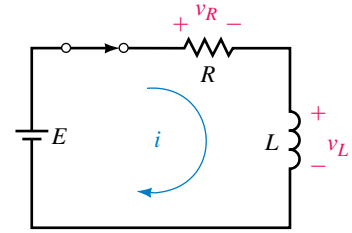

FIGURE 14–7 KVL yields $v_L + v_R = E$.
EXAMPLE 14–2 For the circuit of Figure 14–7, suppose $E = 50 \text{ V}$, $R = 10 \Omega$, and $L = 2 \text{ H}$:
- Values are plotted in Figure 14–8. Note that this curve looks exactly like the curves we determined intuitively in Figure 14–1(b).